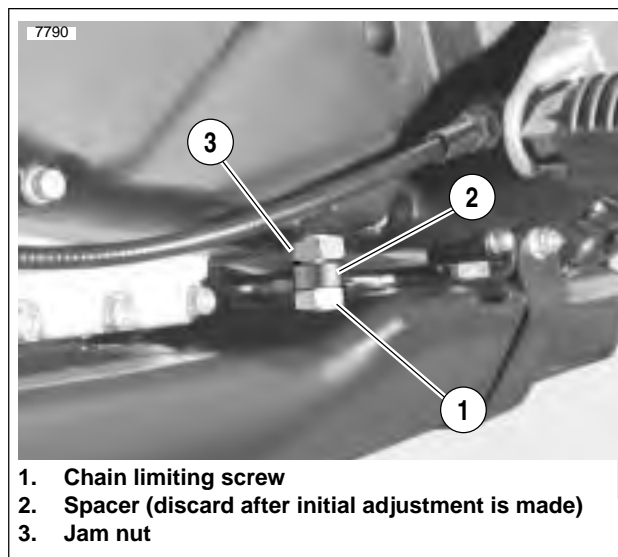

Figure 1-22. Adjustment Nut with Spacer
See Figure 1-22. Buell Blast Models are shipped with a spacer between the primary chain limiting screw and the lock-nut. The spacer is used to quickly get proper adjustment during production. This spacer should be removed and discarded at the first adjustment interval.
1. See Figure 1-22. Back-off jam nut (3) and chain limiting screw (1).
2. Remove spacer (2).